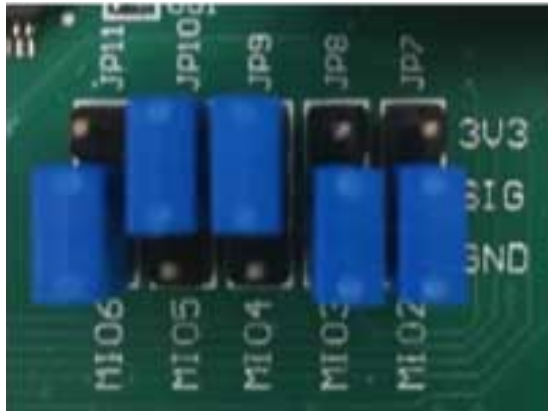

Figure 8. ZedBoard JP7 to JP11 Settings for the SD Card Mode
2. Ensure that the ZedBoard boot configuration jumpers (JP7 to JP11) are set as shown in Figure 8.